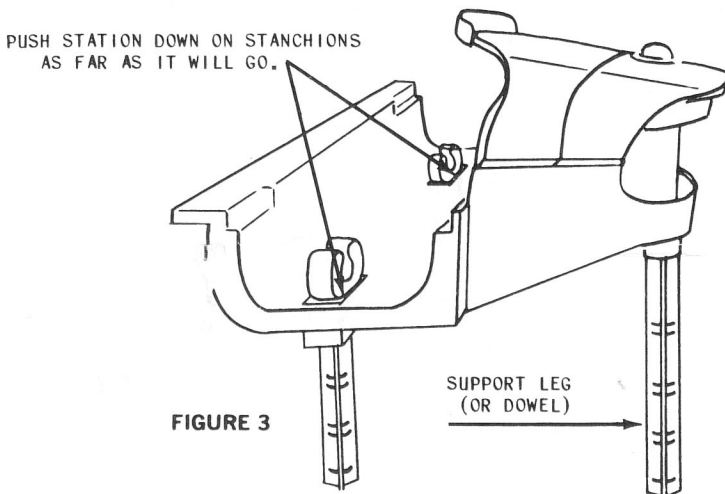

FIGURE 3
NOTE: The bracketed numbers ( ) in steps 2 through 7 refer to part numbers in Figure 3.
Two support legs (see Fig. 3) of different sizes are furnished, permitting the station to be installed between either two "A" stanchions, or two "G" stanchions. Station should be installed at a straight, level section of track. **NOTE:** To install station between two stanchions of a size other than "A" or "G", use a piece of wood or plastic dowel cut to proper length in place of support leg.
2. Mount the station on the two stanchions as shown in Fig. 3. Insert support leg (or dowel) into the hole at the rear of the station as shown. Use the longer leg if station is mounted on "A" stanchions, shorter leg if mounted on "G" stanchions.
4. Upper tunnel clamp pieces may be attached at one or both ends of station in the slots provided (see Fig. 3) to support additional track levels.